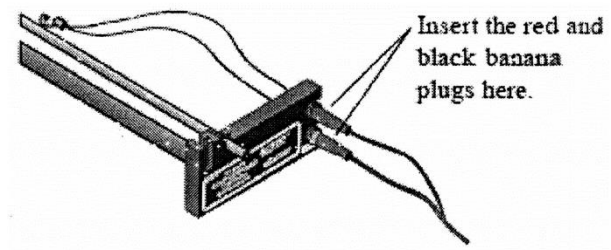

Figure 6 Attaching the banana plugs from the Thermistor Sensor to the end block of apparatus.
5. **Attach the Thermistor Sensor leads to the apparatus (Figure 6).** Insert the red and black banana plugs from the Thermistor Sensor into the jacks on the end block (the one with the Thermistor label).